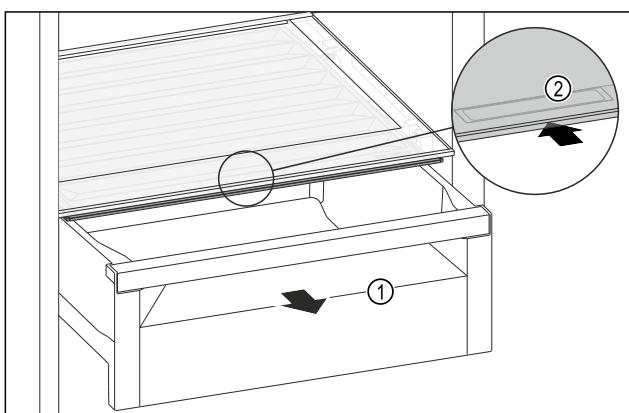

Fig. 117
- ▶ Pull out the drawer Fig. 117 (1).
- ▶ Grasp the recessed grip Fig. 117 (2) on the compartment lid and push the compartment lid backwards at the same time.